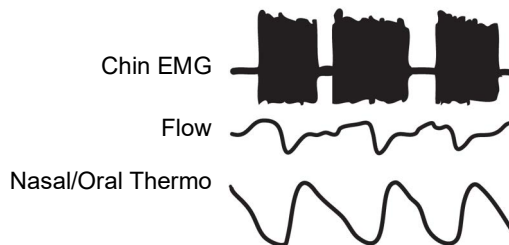

Figure 5-7. Missed Exhalation
4. Exhalation is used to adjust when stimulation is stopped. Exhalation sensitivity should be decreased if stimulation is stopping too often (Figure 5-7).